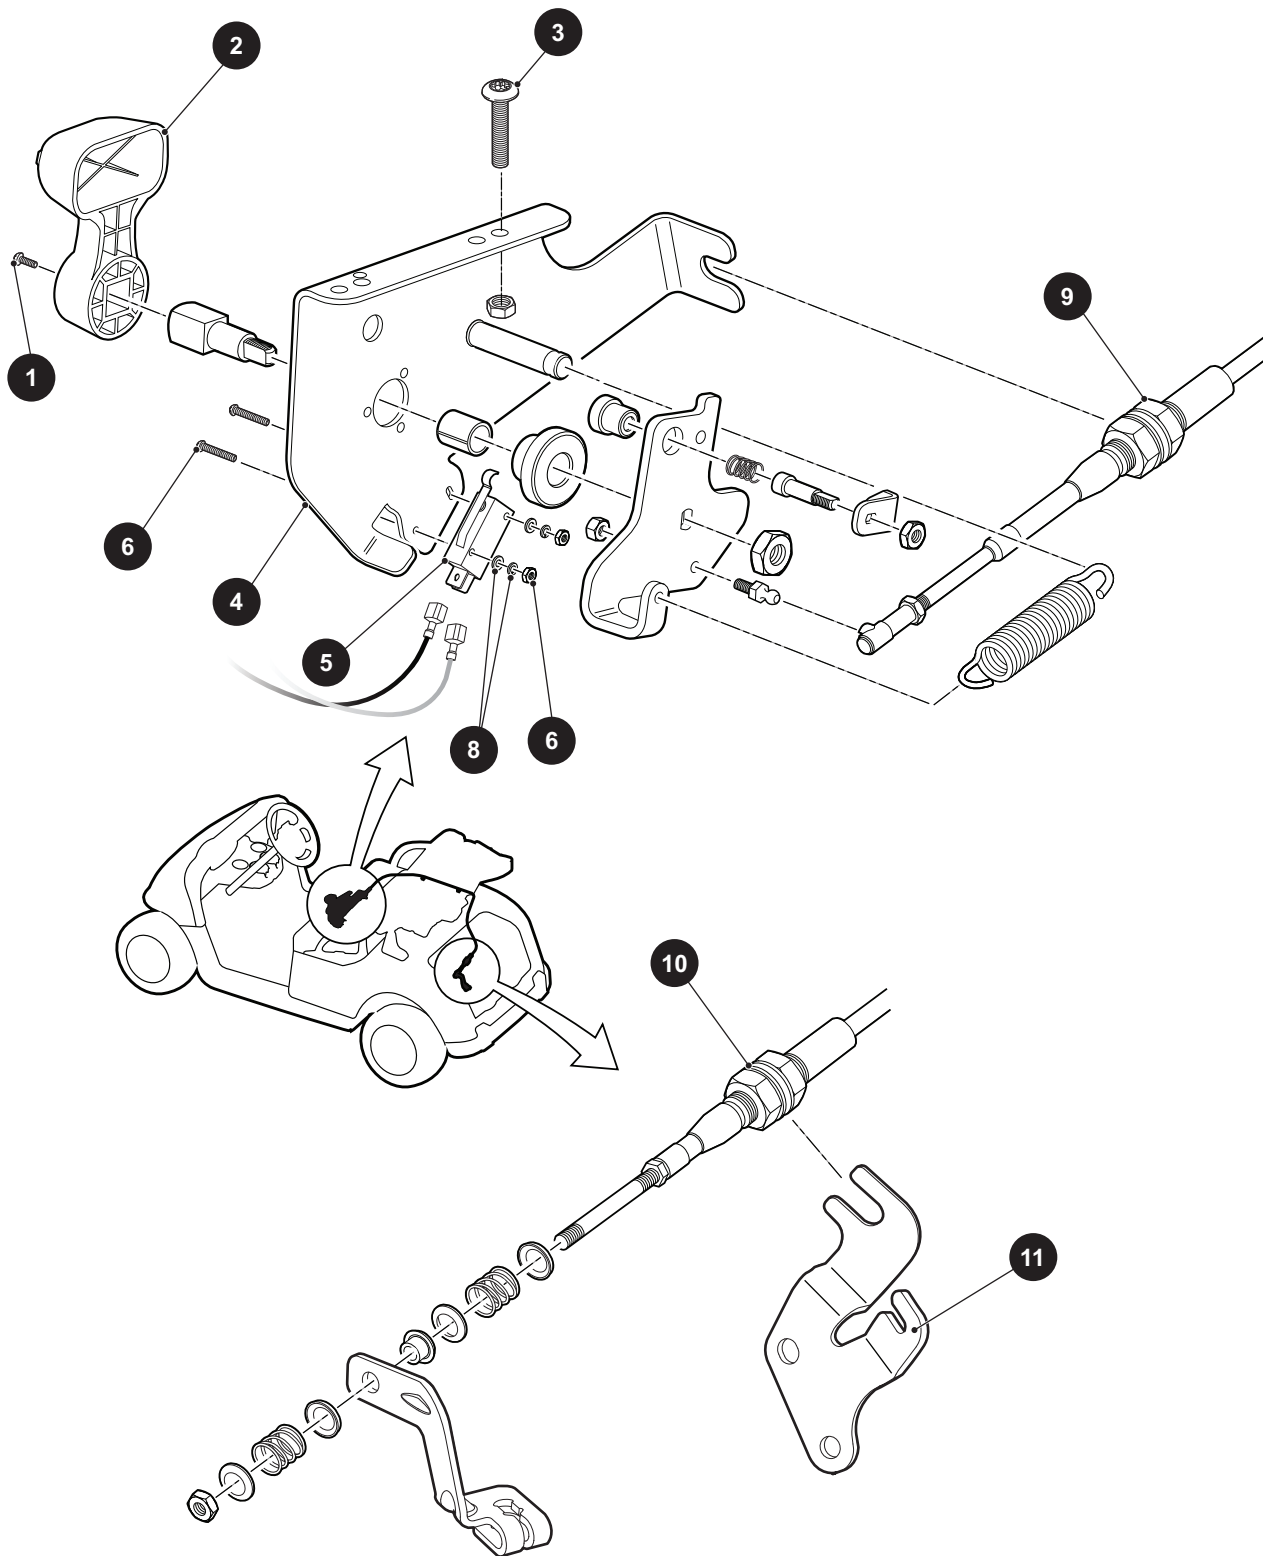

Figure 1 Direction Selector
2. Remove the screw (1) securing the handle (2) to the direction selector shaft, and remove the handle (Figure 1).
3. Loosen the hardware (3) attaching the direction selector bracket (4) to the seat frame and remove the direction selector from the body.